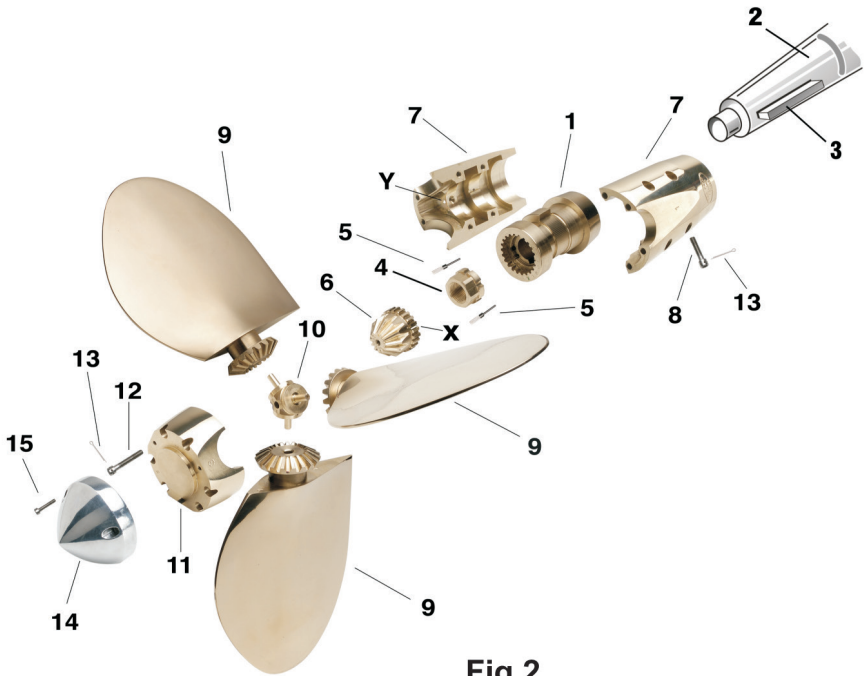

Fig.2
Make sure that if you receive more than one propeller that do not interchange parts. Each propeller is individually balanced and if interchanged it will be put out of balance. Please use figure 2 in the instruction book for part number references.
E) Locate the mark on the top inside of the spinner (a small drill hole). This is the “Y” mark in figure 2. Rotate the spinner until the “Y” mark on the spinner coincides with the correct letter on the top of the central cone gear. This letter is determined from the chart in figure 4. Fill the top of the spinner with grease.
- The numbers above are from Figure 2 at the beginning of this MAX PROP® Manual.